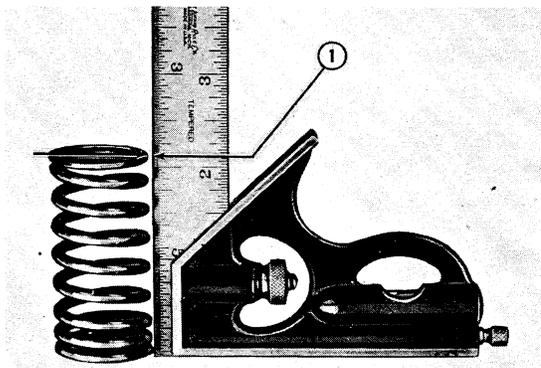

Figure 12
10. VALVE SPRINGS: Discard valve springs that shows signs of erosion, rust, or are out of square in excess of 0.060 in. (1.6 mm), Figure 12. Check the specified free length and loaded length of the valve spring and replace any below specification. Be sure the valve spring retainer locks are in good condition.